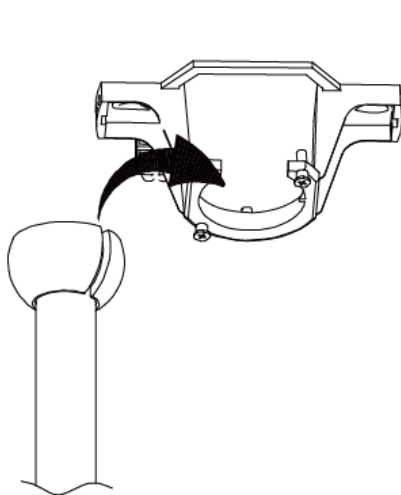

Fig. 6
- Lift the fan assembly onto the mounting bracket. Fig. 6
7. Connect **TO MOTOR N** of control unit wire to the **MOTOR (N)** fan wire.
8. Connect **TO MOTOR L** of control unit wire to the **MOTOR (L)** fan wire.
12. Lay the control unit in the CANOPY. (See Fig. 6).